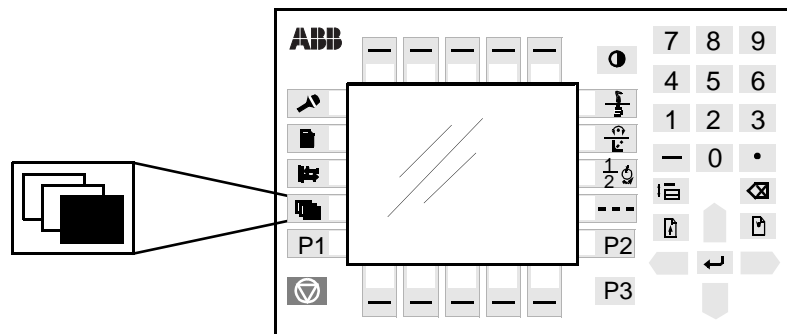

Figure 13 The Misc. window key from which the Service window can be chosen.
1. Press the **Misc.** window key (see Figure 13).